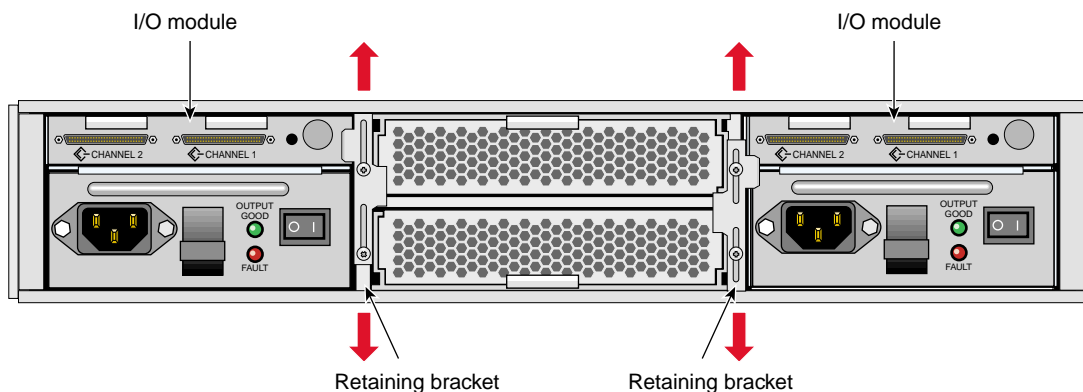

Figure 3-4 I/O Module Retaining Bracket
1. Loosen the screws securing the retaining bracket (see Figure 3-4) and slide the bracket down, until it is clear of the side of the I/O module.